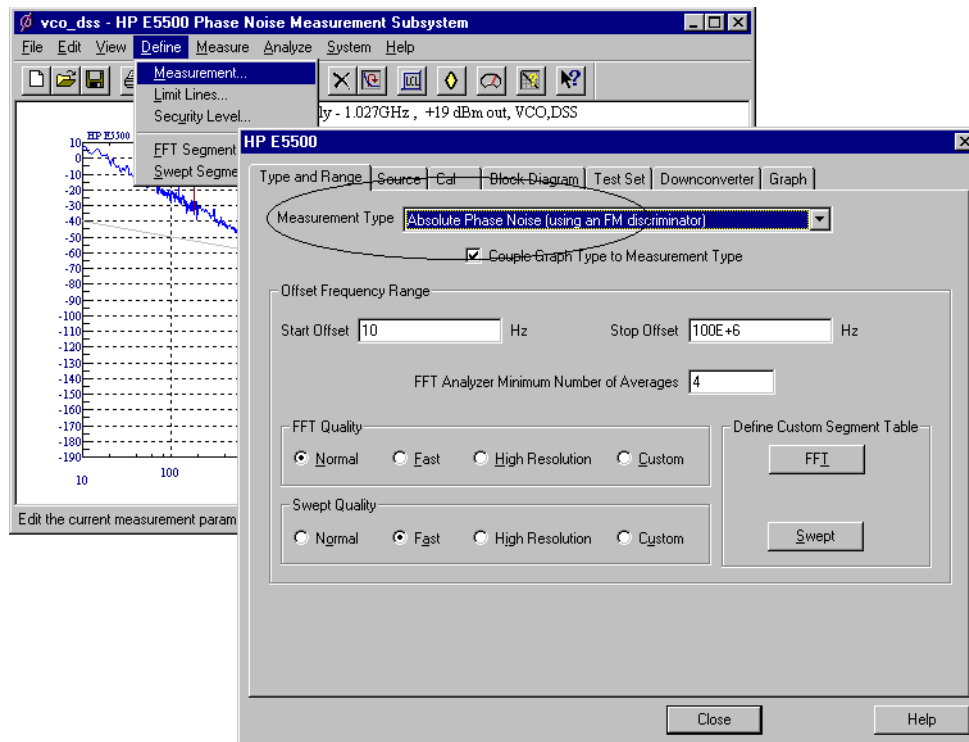

Figure 11-20 Select Measurement Type
- 6 From the **Measurement Type** pull-down, select **Absolute Phase Noise (using an FM discriminator)**. See Figure 11-20.